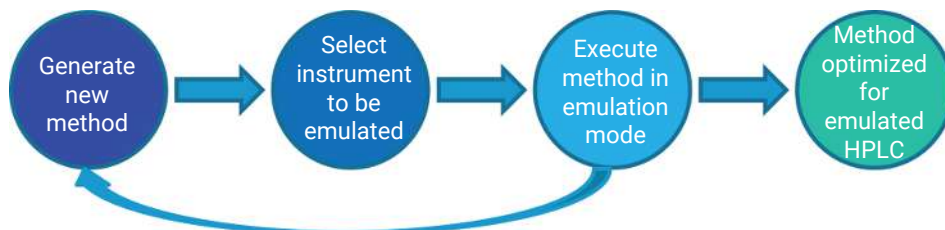

Figure 2: Method development
- Method development, see Figure 2 on page 7